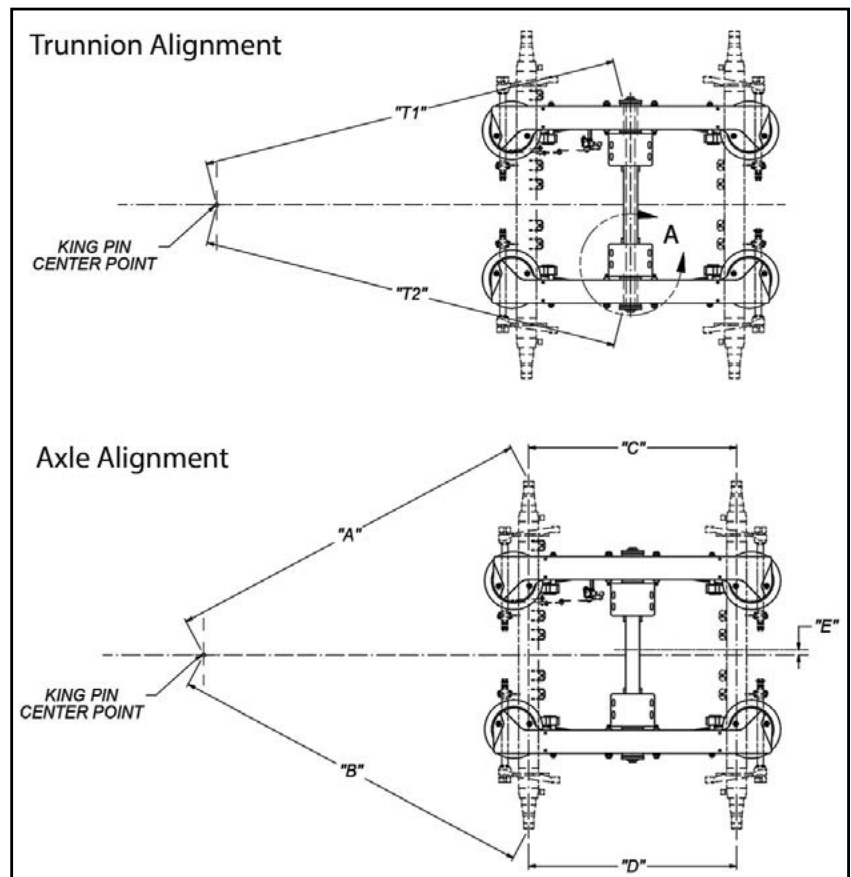

Figure 2. Kingpin measurements for trunnion and axle alignment.
2. Align the trunnion tube with the kingpin. Trunnion alignment dimensions "T1" and "T2" shown on the illustration must be equal (Figure 2).
5. Check that axle alignment dimensions "A" and "B" are equal to +/- 1/8". Snug the four pivot fasteners and recheck the alignment (Figure 2).